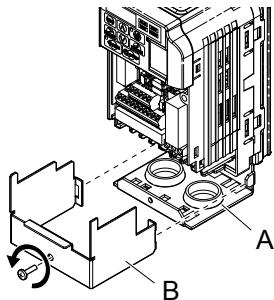

Figure 3.10 Remove the Terminal Cover on an IP20/NEMA Type 1 Drive
2. Loosen the screw on the terminal cover (*Figure 3.10, B*) to remove the terminal cover and expose the conduit bracket (*Figure 3.10, A*).